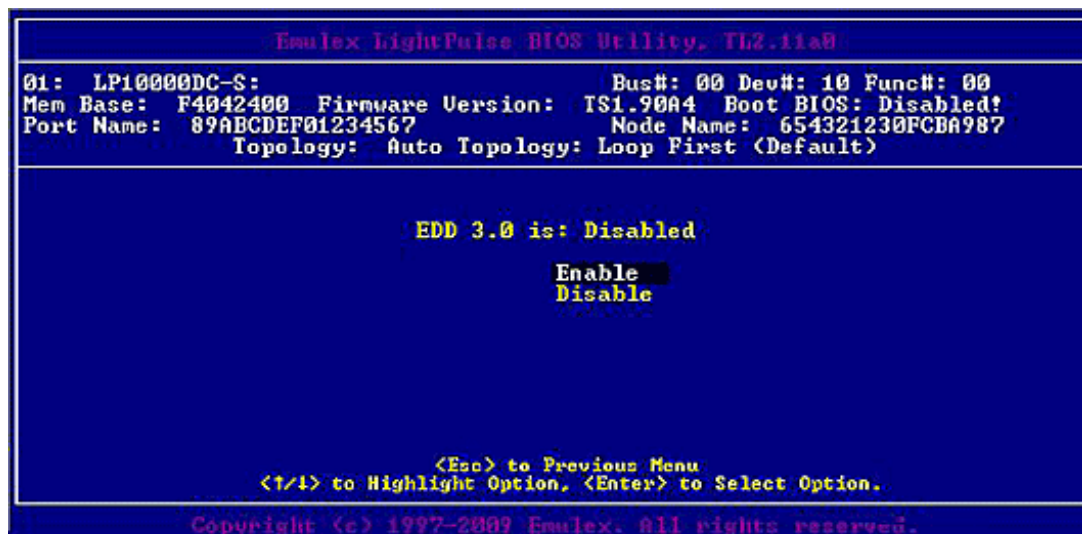

Figure 4-15 Enable or Disable EDD 3.0 Screen
2. Select **Enable or Disable EDD 3.0**. Figure 4-15 is displayed.